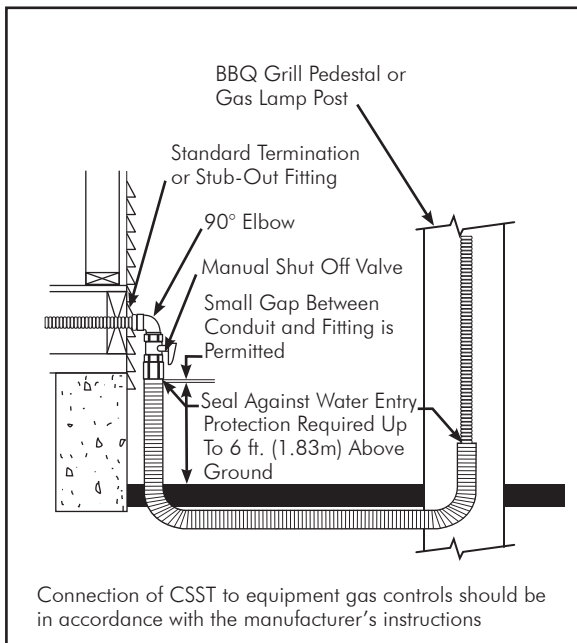

FIG. 4-26 Ground Level Buried Connection
- Yard mounted gas powered lights shall be connected to the DIAMONDBACK™ system as shown in **FIG. 4-26**. All DIAMONDBACK™ installed below grade shall be protected by nonmetallic conduit. Exposed ends shall be sealed against water entry.
FIG. 4-26 shows an acceptable installation of CSST underground or in concrete.